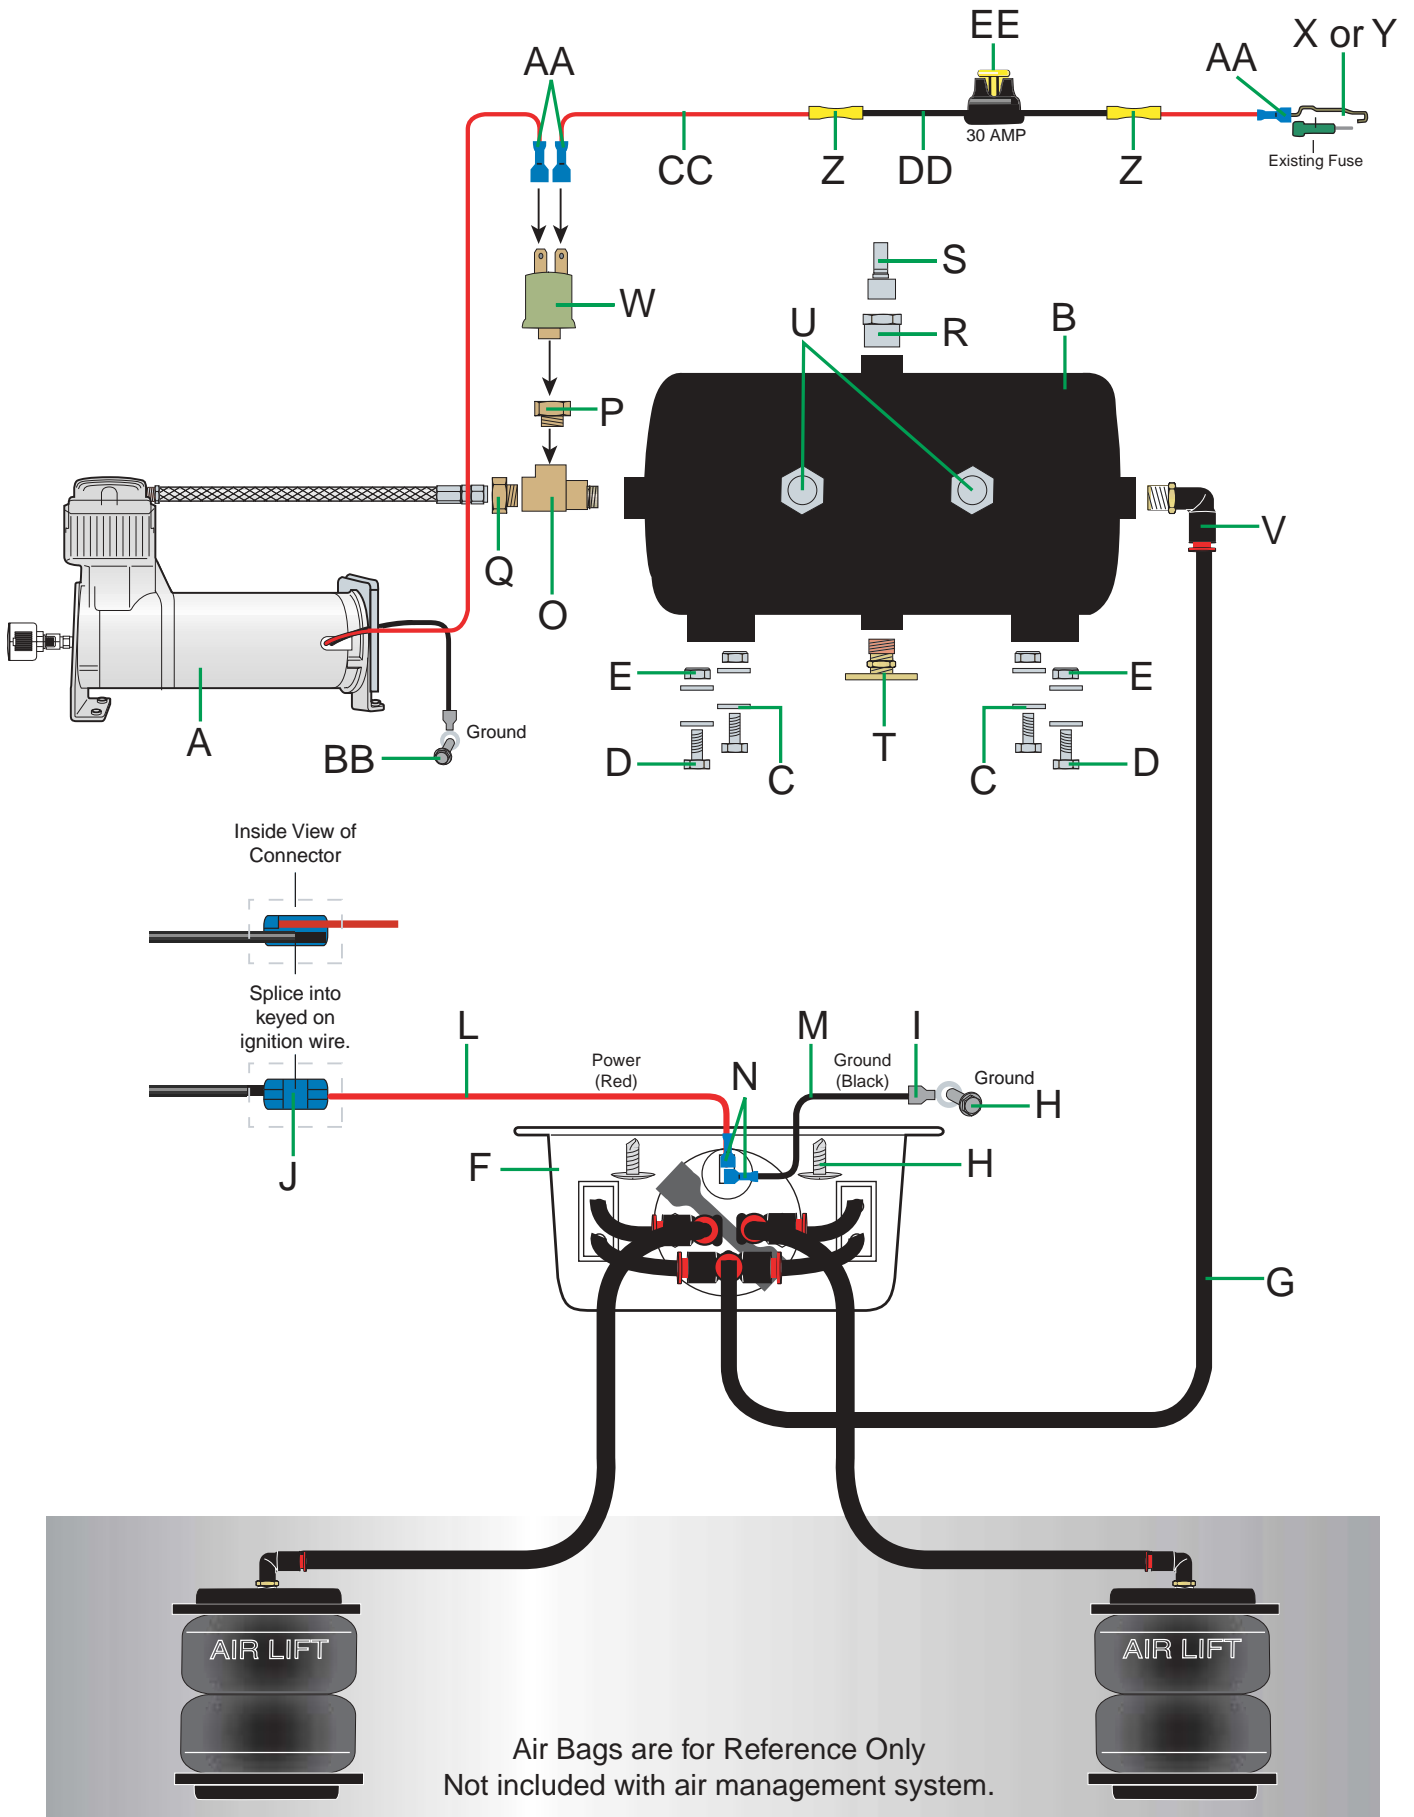

Figure 1
***The following instructions correspond to Figure 1 on the previous page of the instruction manual.***